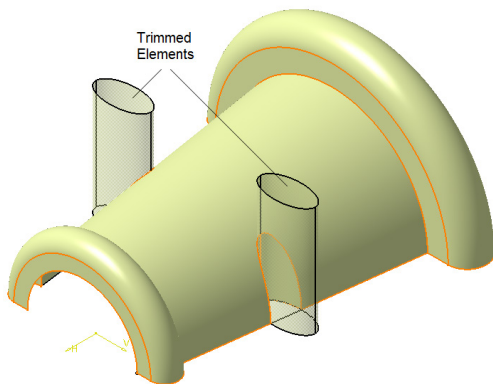

Figure 17-89 Surfaces selected for trimming
2. Select the base and extruded surfaces from the drawing area; the name of the selected surfaces displayed in the **Trimmed elements** selection box. The element to be trimmed becomes translucent. Next, choose the **Other side/ Previous element** button to retain desired side of the surface. Refer to Figure 17-89.